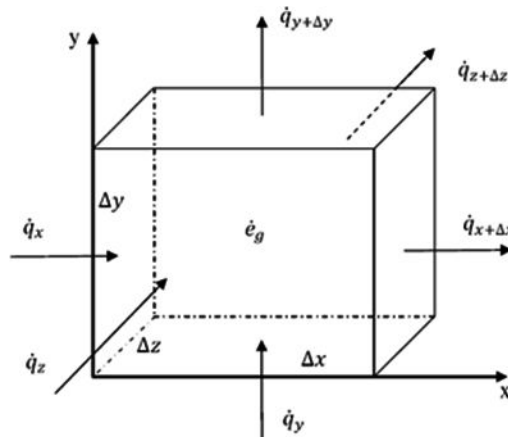

Fig. 2.2 Conduction analysis in cartesian co ordinates
- Consider the flow of heat through an infinitesimal volume element oriented in a three dimensional co-ordinate system as shown in figure 2.2. The sides dx, dy and dz have been taken parallel to the x, y, and z axis respectively.